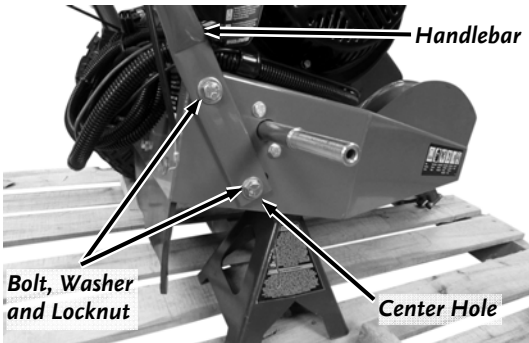

Figure 5
Note: Make sure the Jack Stand or Blocking doesn't cover access to the corners of the Frame where the Handlebars will attach (**Figure 5**).
4. Position the right side of the Handlebar with the lower mounting hole aligned with the center hole (of the 3 holes) in the Frame (**Figure 5**).